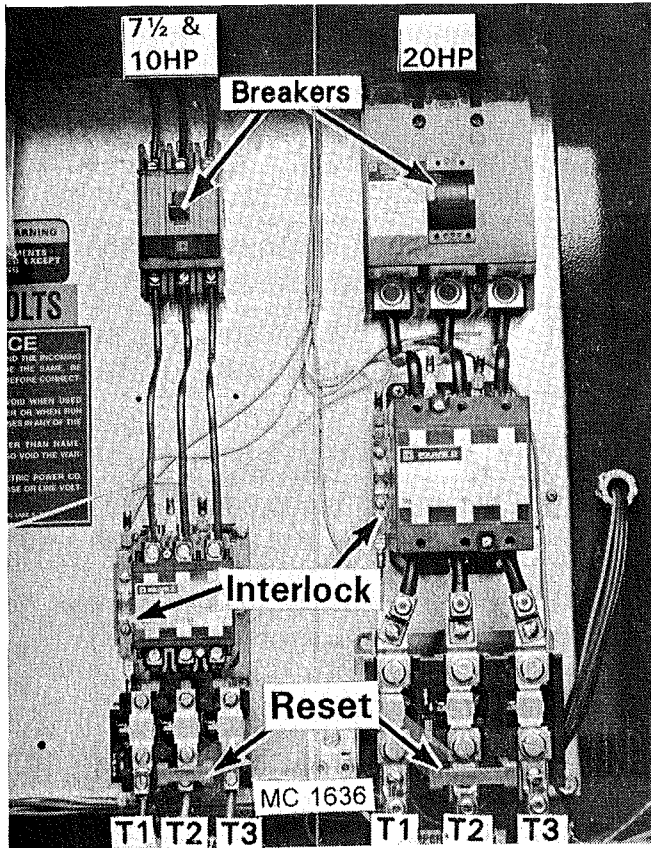

Figure 10 – Fan Magnetic Starters – 3 Phase 230V
- A. **Three phase motors** – Move the wire from terminal T1 to T3 and T3 to T1 on the fan magnetic starter in the lower control cabinet. See Figure 10.